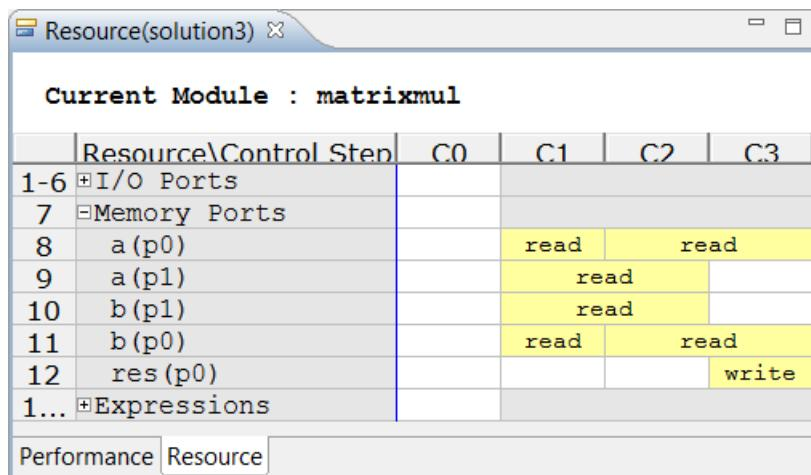

Figure 7-12: Matrixmul Pipeline Col Resource View
10. Expand the **Memory Ports** to see the view shown in Figure 7-12.
In Figure 7-12 the 2-cycle read operations in state C1 overlap with those starting in state C2 and so only a single cycle is visible: however, it is clear that this resource is used in multiple states.